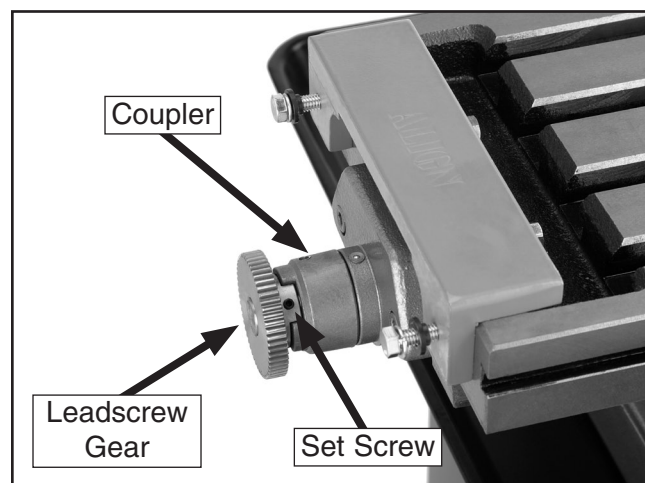

Figure 4. Leadscrew gear installed onto the leadscrew.
3. Slide the provided leadscrew gear onto the leadscrew and into the fingers of the coupler, as shown in **Figure 4**, then tighten the set screw of the gear to secure it.